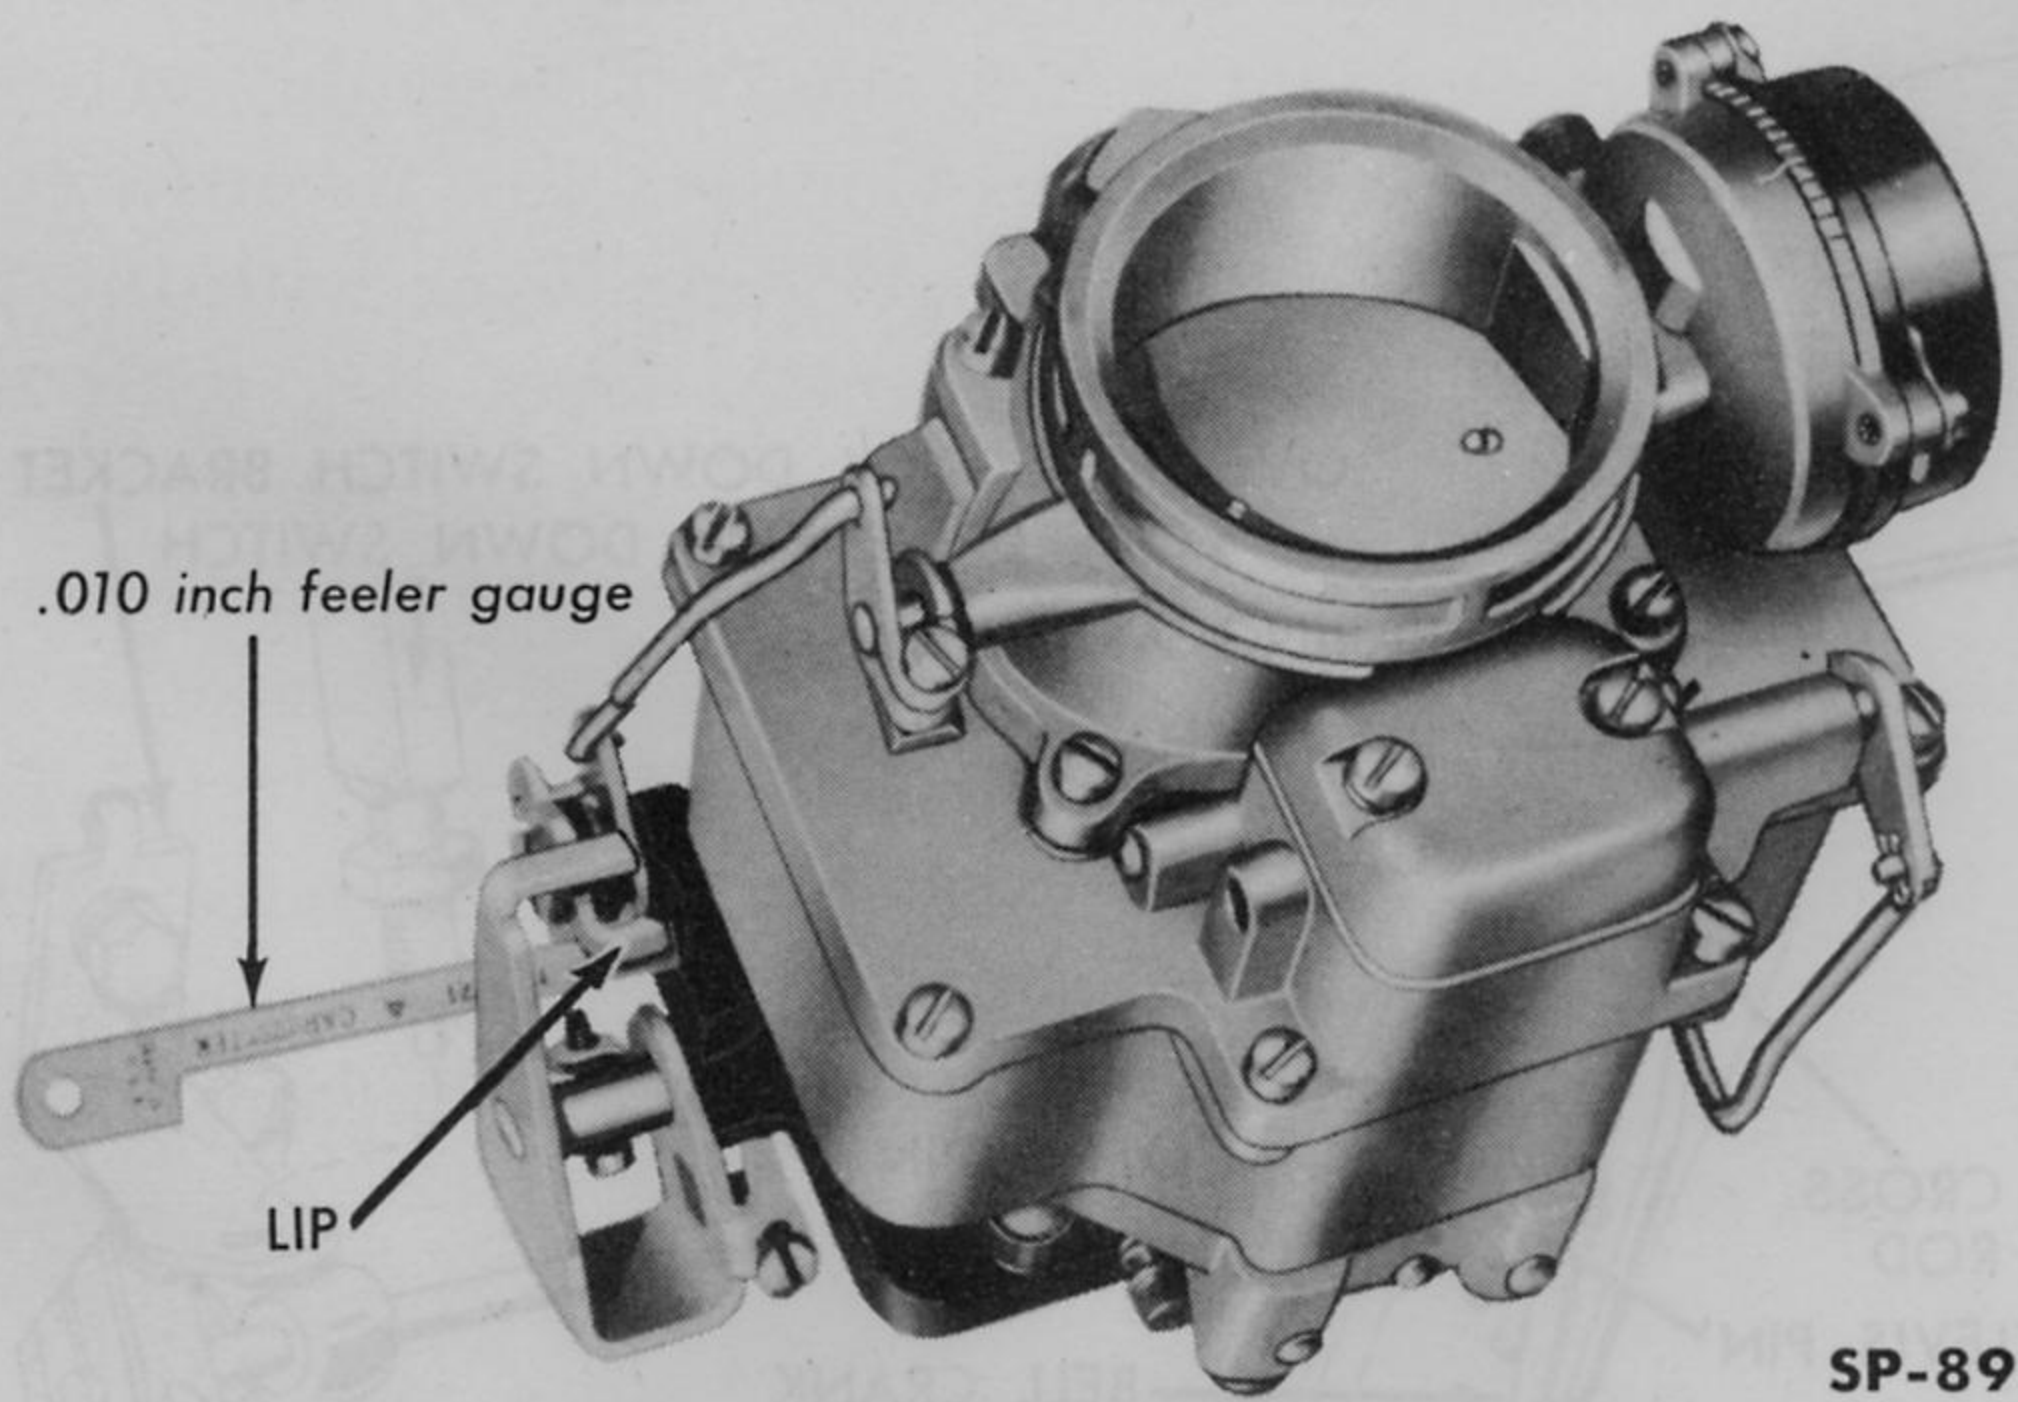
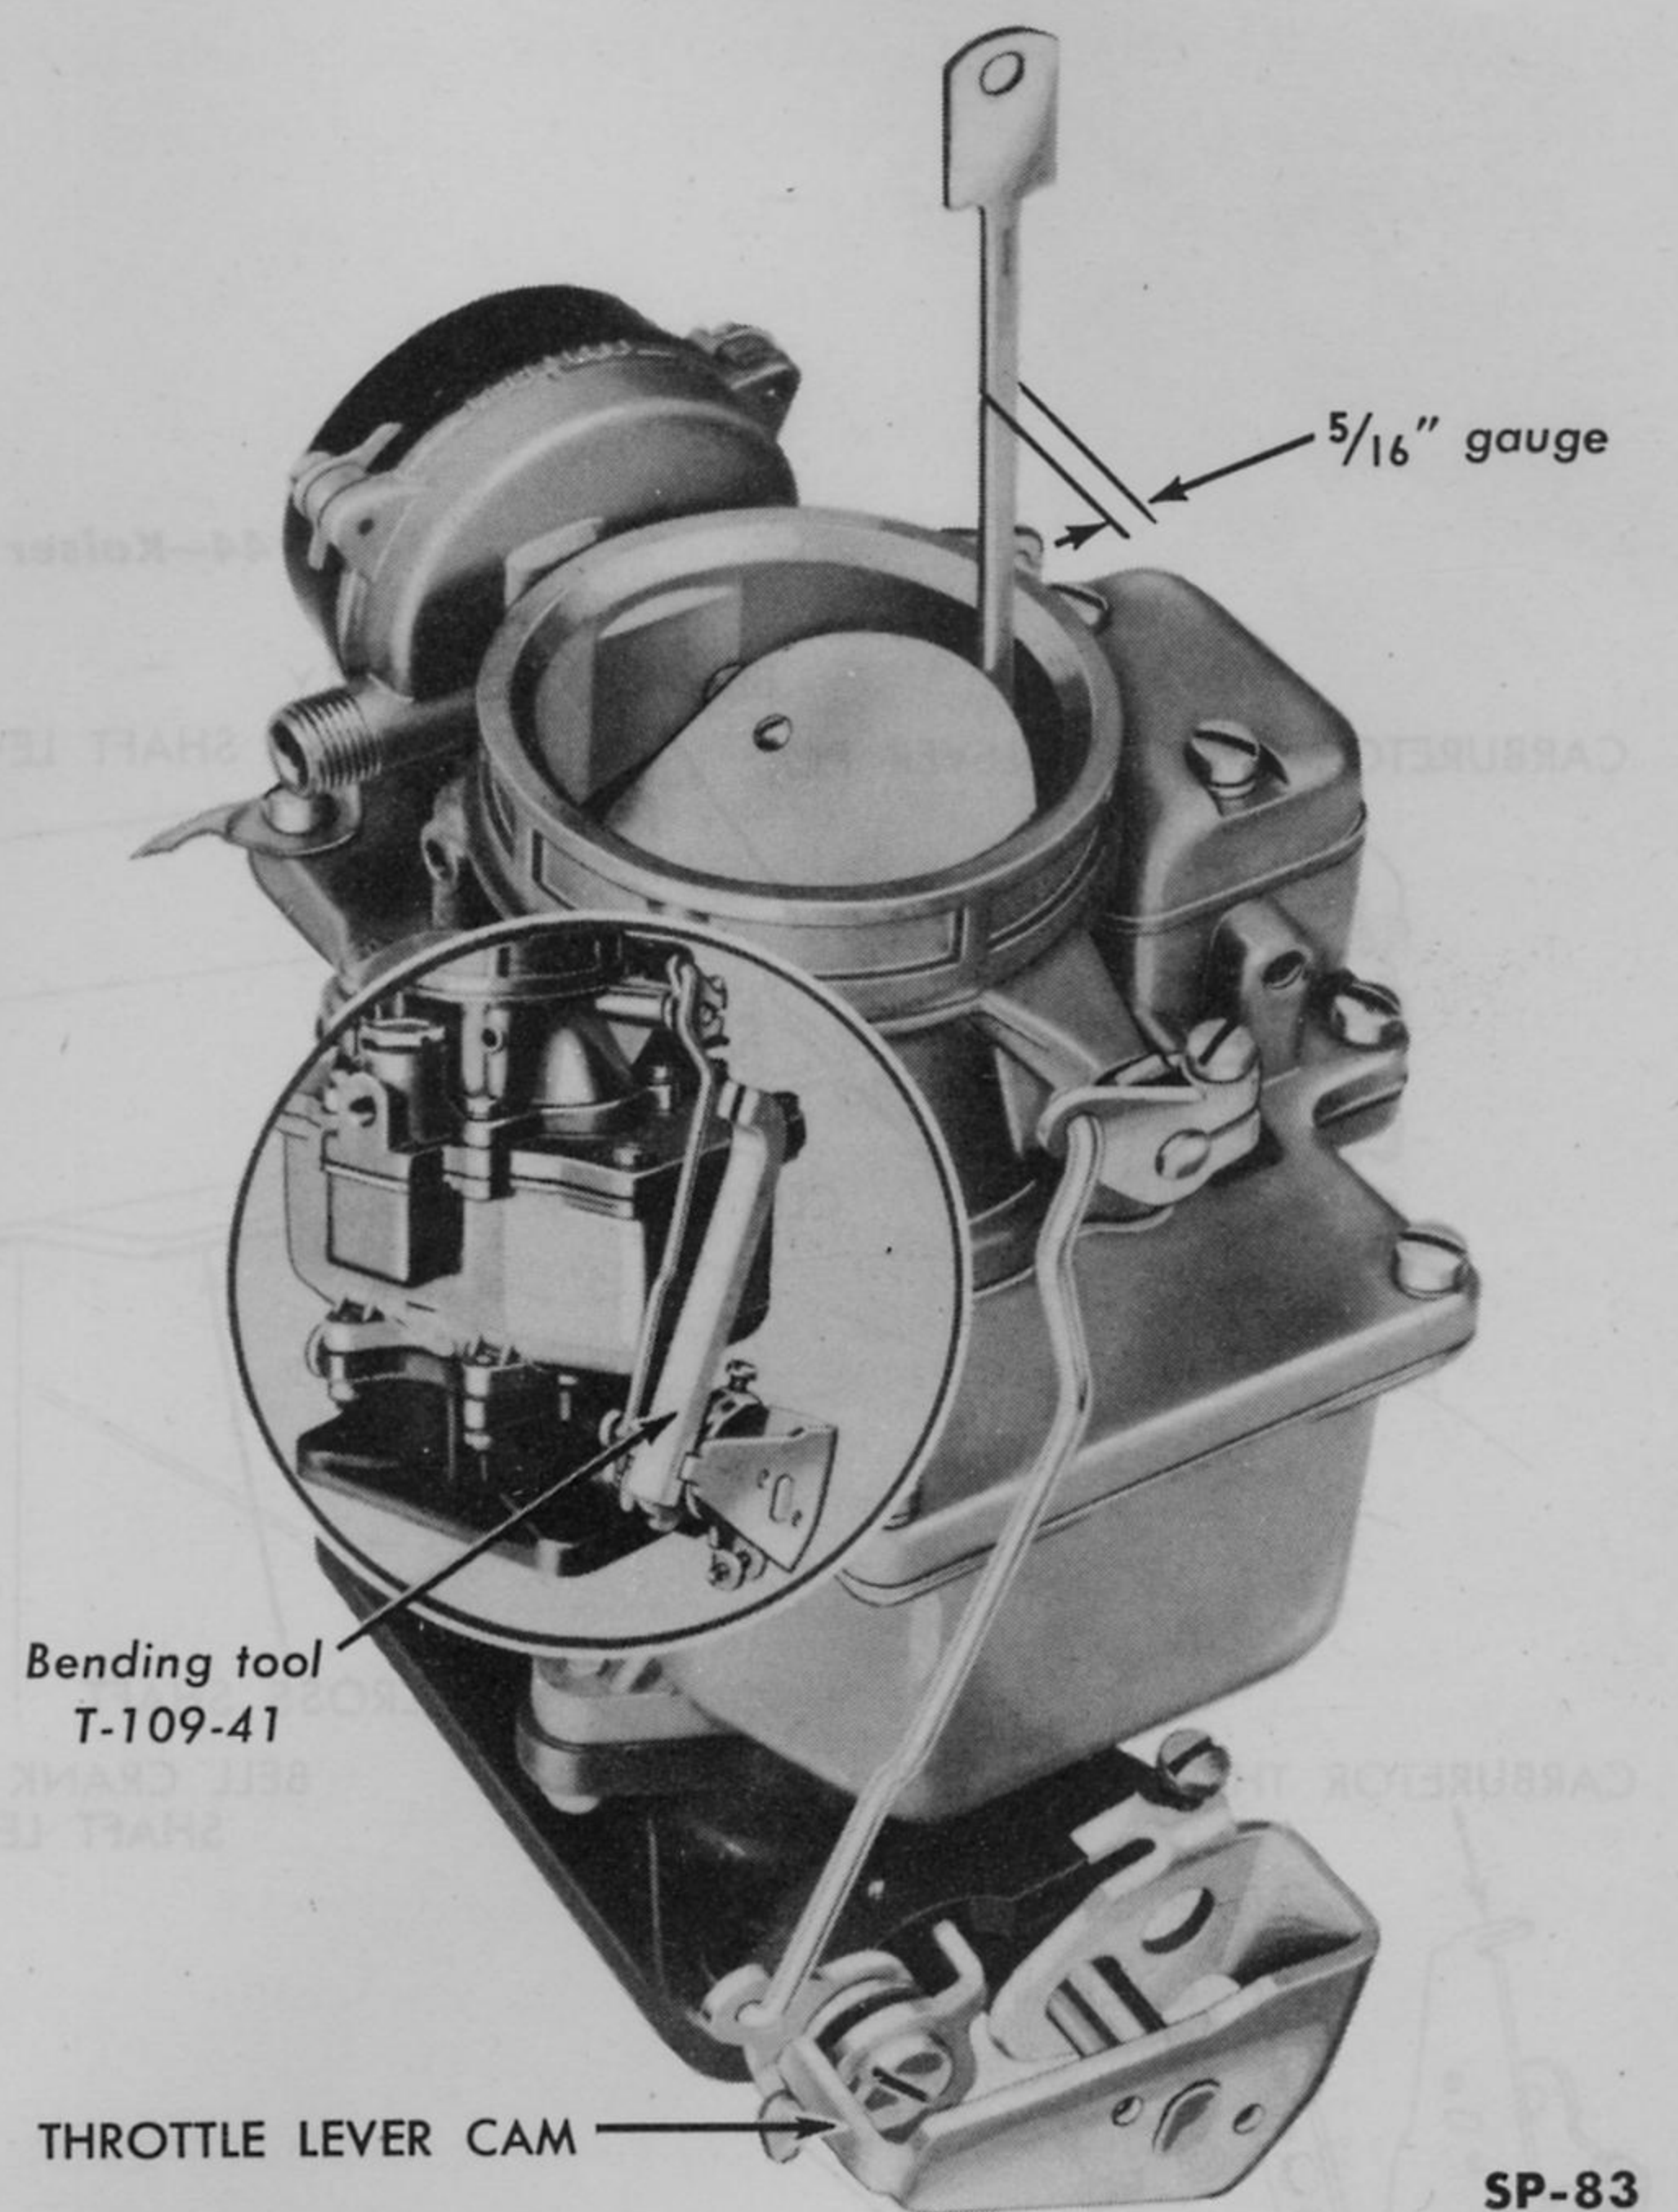

Fig. 142—Adjusting Choke Valve (WCD-723S)
Fig. 143—Adjusting Unloader Lip (WCD-723S)
4. Unloader Adjustment. Loosen the screw on the choke lever. Hold the choke valve in the fully closed position and insert a .010 inch flat feeler gauge (Fig. 142) between the lip on the fast idle cam and the base on the flange casting, then tighten the choke lever screw. With the throttle valve in the fully open position, bend the unloader lip on the throttle lever cam with bending tool T109-41 (Fig. 143) until a clearance of $\frac{1}{8}$ inch is established between the upper edge of choke valve and air horn.